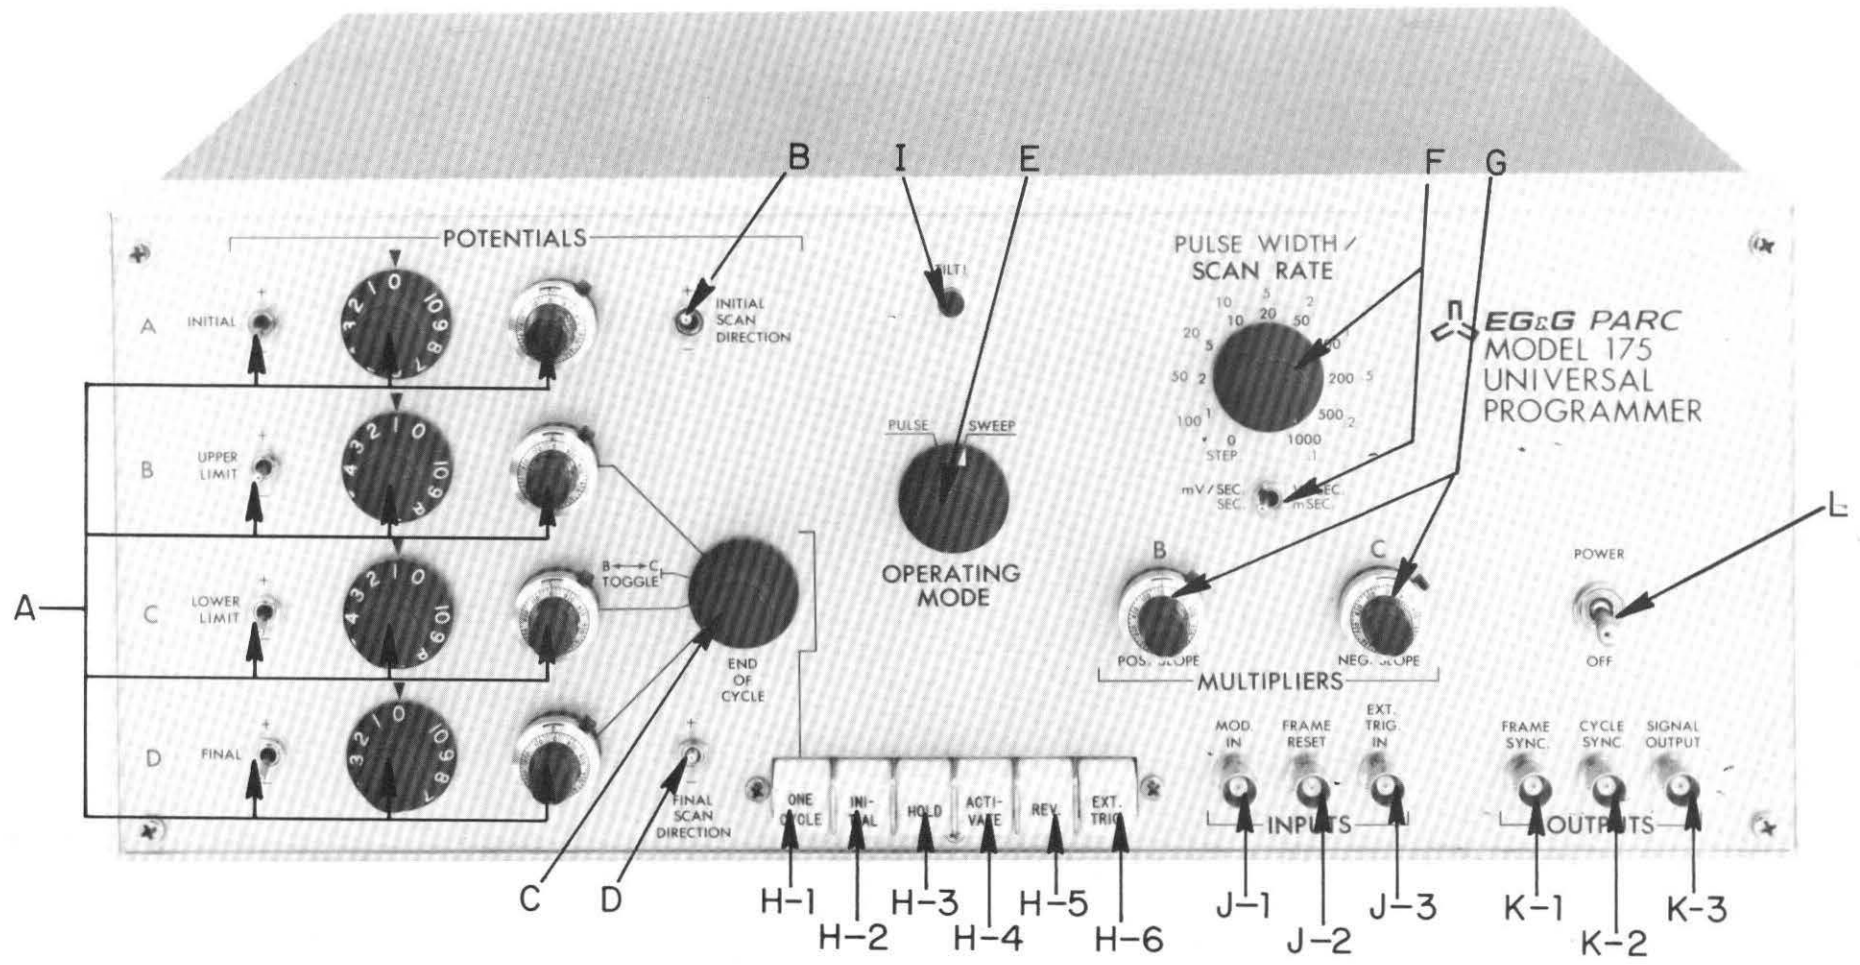

Figure III-1. MODEL 175 UNIVERSAL PROGRAMMER
3.2 CONTROLS (descriptions keyed to Figure III-1)
Of the two modes, pulse operation is perhaps the simpler and so is discussed first. Observing the front panel (or Figure III-1), note that the four sets of Potential controls each have two names, "letter" names, A, B, C and D, which are used in pulse mode operation, and "functional" names, INITIAL, UPPER LIMIT, LOWER LIMIT, and FINAL, which are used to describe their action in sweep mode operation. The basic sequence for each pulse cycle is for the output potential to step from potential A, to potential B,